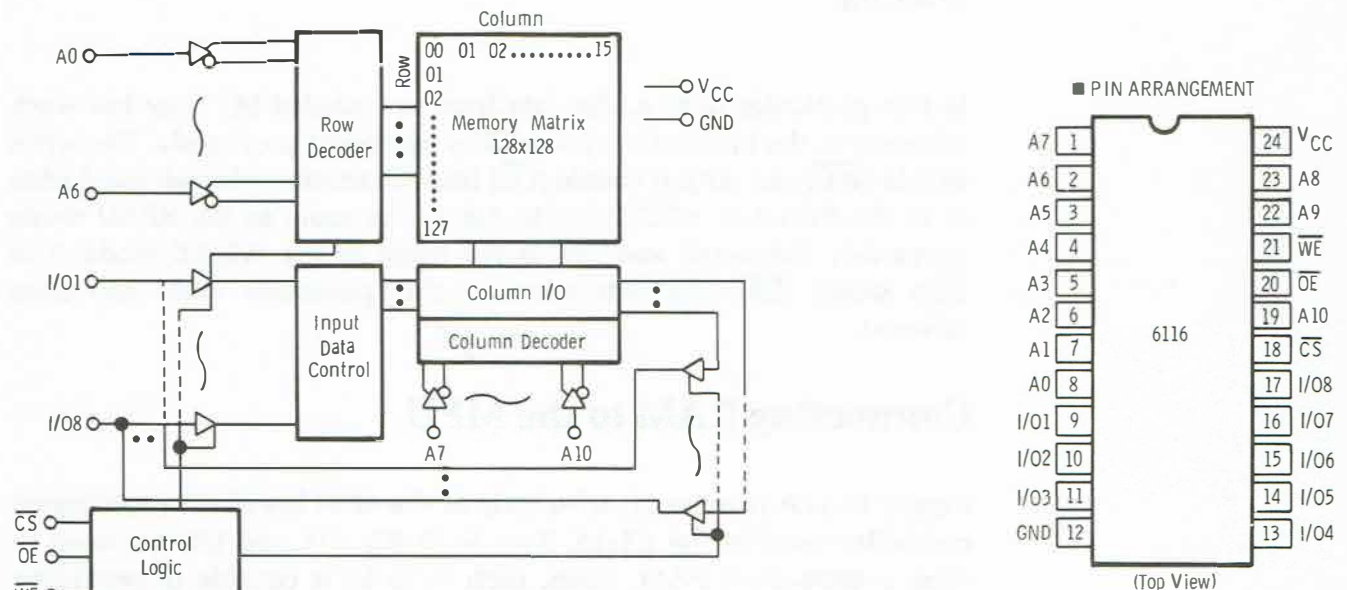

Figure 10-16
A simplified diagram of the single IC, high speed, static RAM, used in the ET-18, is shown in Figure 10-16. This is a CMOS 2048-word by 8-bit RAM. The ET-18 has two such RAMs; therefore, it has a total capacity of 4096-words, or 4K, of random access memory.
18.	(2048) Using Figure 10-16 as our example, an address of (10100010111) would address the contents at row _____ col- umn _____, in the RAM.